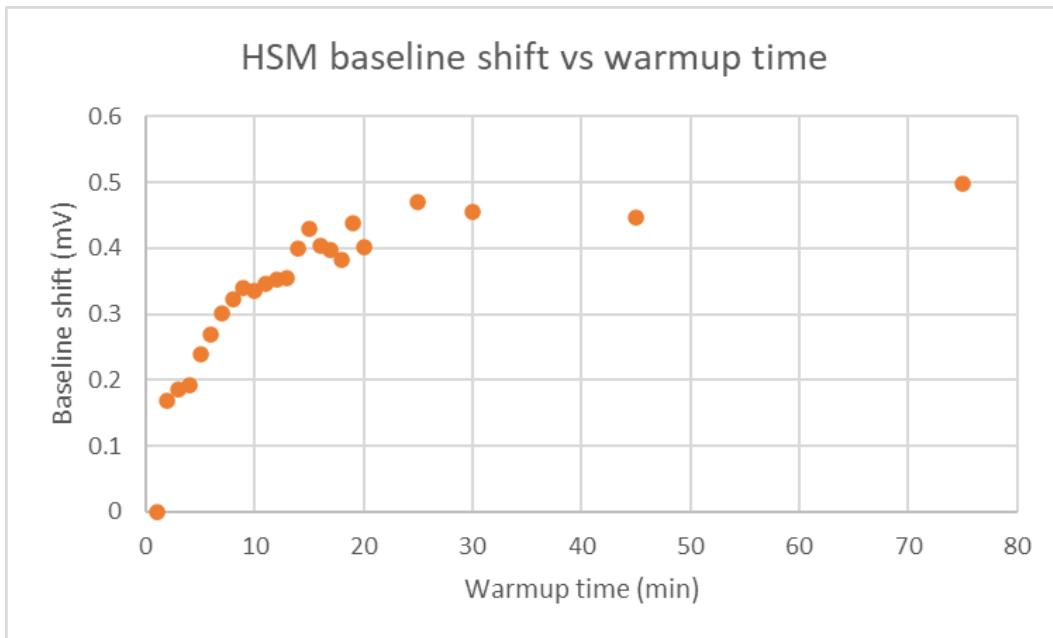

Figure 25: Baseline shift over warmup time
**STEP 1: allow HSM warmup time > 20 min (Figure 25); the warmup light in the Home Page turns to green. Warning: in case the measurement is preformed when warmup light is red the accuracy of measurement might be worse then specified**